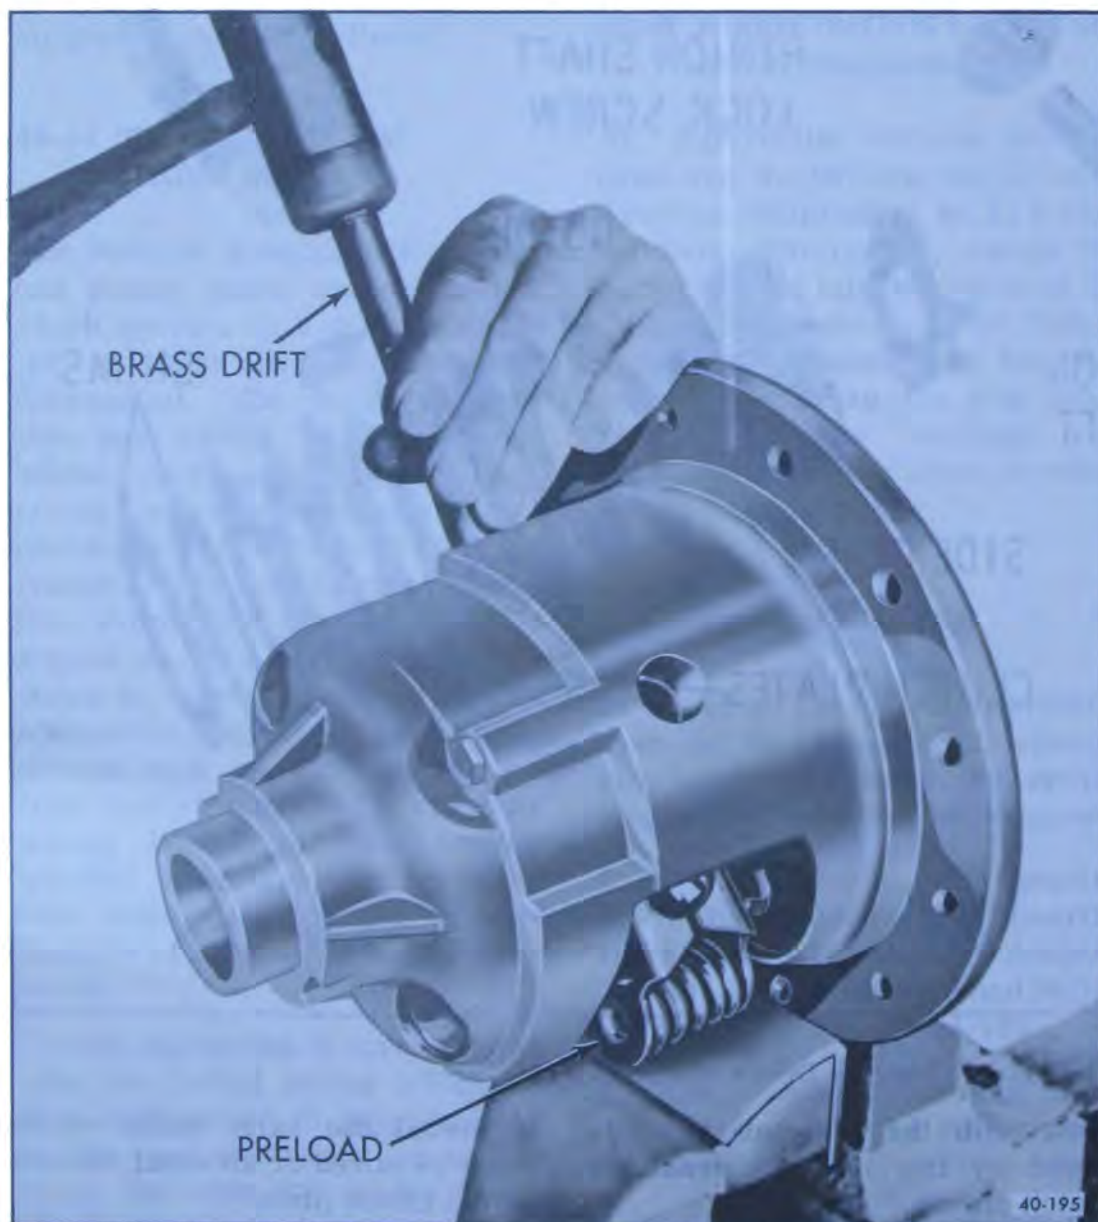

Figure 40-183—Removing Preload Thrust Blocks and Springs
5. Remove the preload spring thrust blocks and spring from the case. See Figure 40-183.